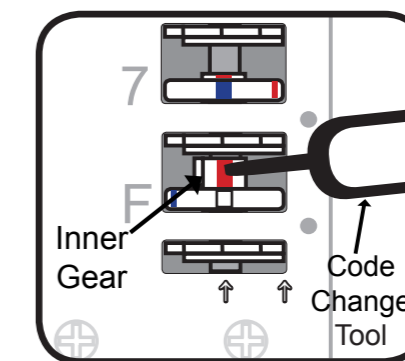

Fig.2
1. To turn off the free passage function – insert the code change tool (**part no.12**) into the small hole in the top of the inner gear and then it can be lifted upwards, this will expose a red line on the inner gear (as per fig.2).